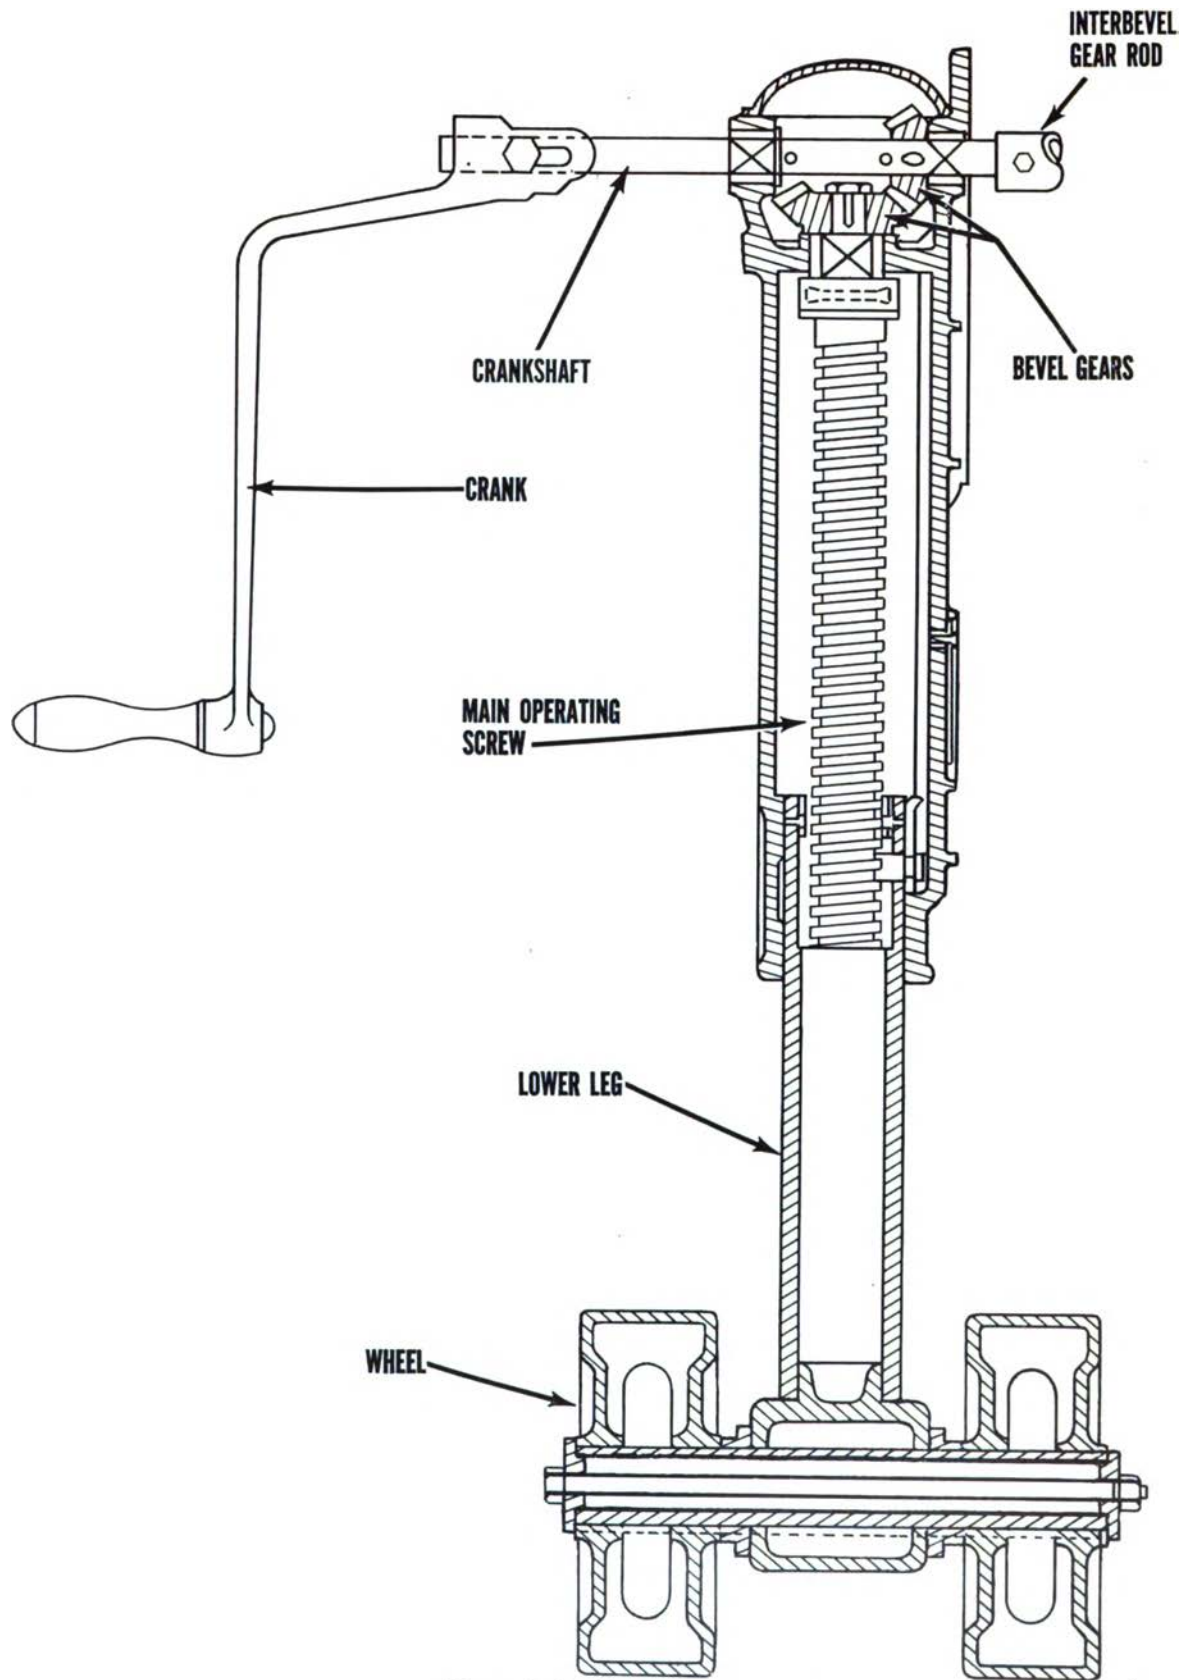

Figure 8. Landing-gear shaft.
g. Front Landing Gear. When the semitrailer is not coupled to the dolly or towing vehicle, its front end is supported by the front landing gear. The landing gear consists of two vertical-acting screw-type retractable shafts (fig. 8). The two gears may be operated in unison. When the landing gears are used for leveling the front end of the semitrailer, they are operated independently of each other. Each landing gear has its own handcrank. The bot-